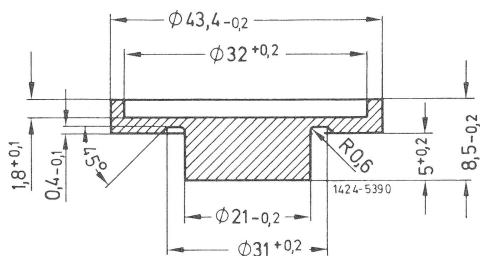

Fig. 21
**Note:** Plate is self-made according to dimensions shown in Fig. 21.